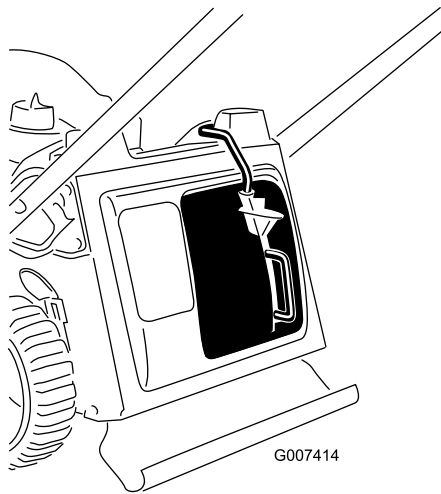

Figure 9
3. Release the button on the lever and ensure that the top of the lever is lies fully in the switch channel (Figure 9). **If the top of the lever is not in the switch channel, your machine will not start.**